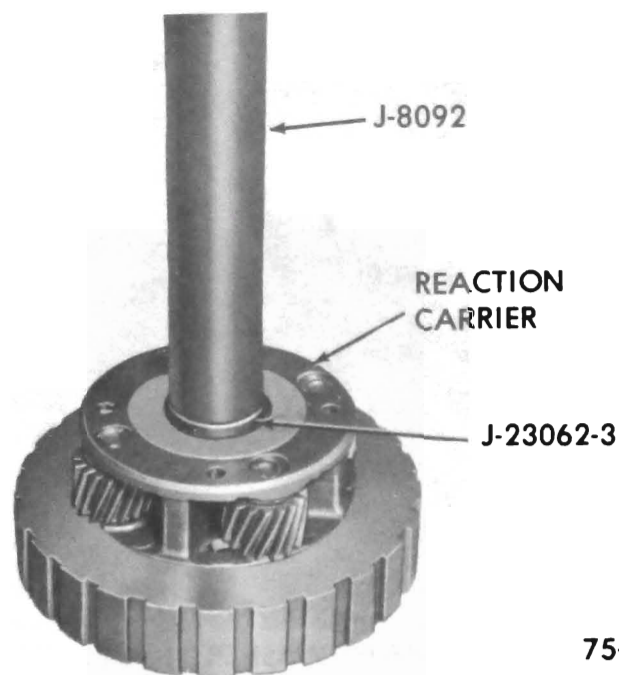

Figure 75-110
a. Thread tool J-23062-3 on Drive Handle J-8092 and remove bushing. See Figure 75-110.
b. Using Tool J-23062-3 press in new bushing flush to .010" from inner surface of hub. See Figure 75-110.